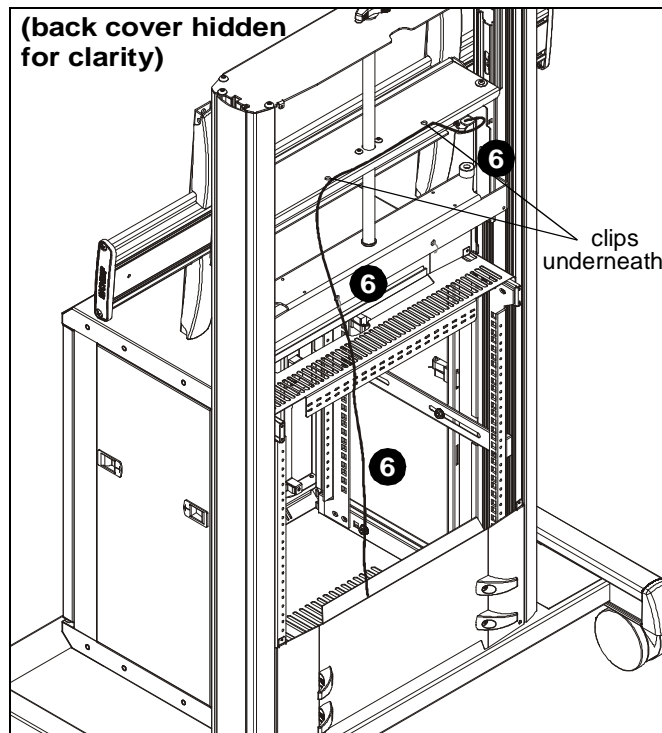

Figure 13
6. Route cables from display through inside of cart assembly attaching at cable management attachment points and/or accessory bracket as desired. (See Figure 13)